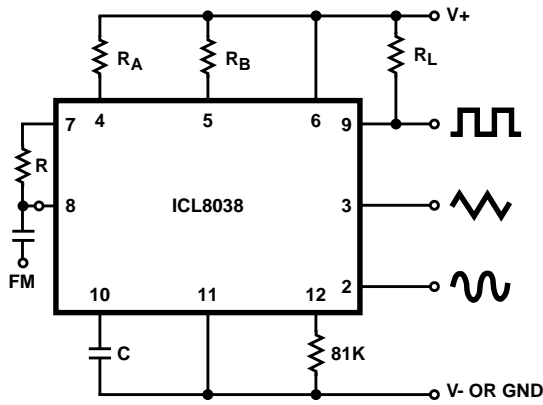

FIGURE 5A. CONNECTIONS FOR FREQUENCY MODULATION
3. $V_{SUPPLY} = 20V$; R_A and $R_B = 10k\Omega$, $f \cong 10kHz$ nominal; can be extended 1000 to 1. See Figures 5A and 5B.
The frequency of the waveform generator is a direct function of the DC voltage at Terminal 8 (measured from V+). By altering this voltage, frequency modulation is performed. For small deviations (e.g. ±10%) the modulating signal can be applied directly to pin 8, merely providing DC decoupling with a capacitor as shown in Figure 5A. An external resistor between pins 7 and 8 is not necessary, but it can be used to increase input impedance from about 8kΩ (pins 7 and 8 connected together), to about (R + 8kΩ).